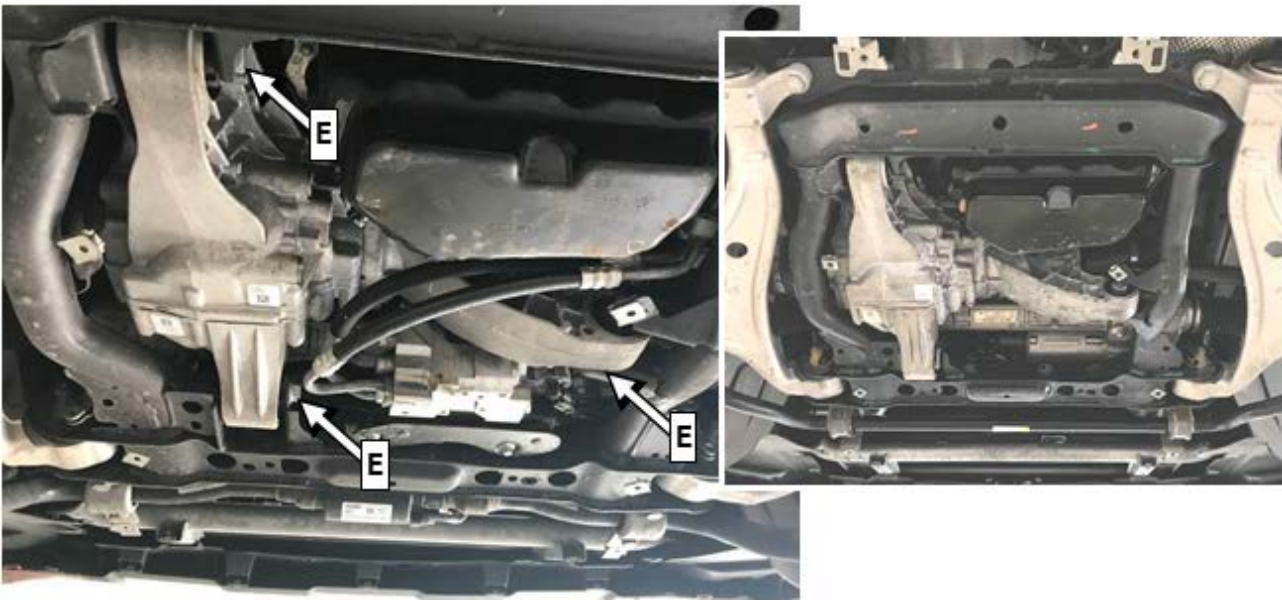

Figure 5
2. Remove screws (E, Figure 5) connecting the front axle differential to the front axle carrier.